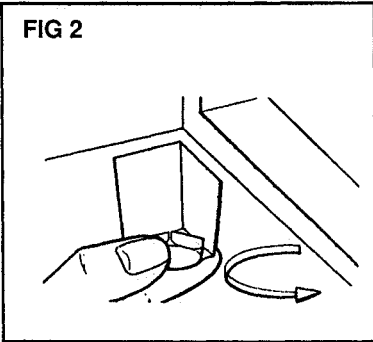

FIG 3
**2.** Gently lay the appliance on its back with the top held away from the floor by at least 30cm (12"), use a stool or something similar. Make sure to use a towel or cloth at the base to protect the sides of the appliance ensuring that it does not slip. Do not support the appliance on the rear ventilation grill, see Fig. 3.